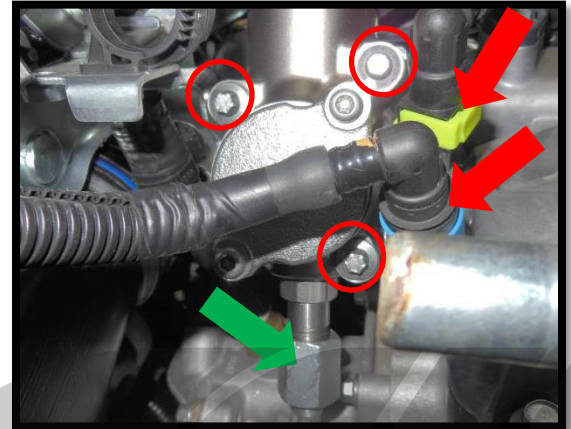

Figure 1l
r) **Remove the high pressure fuel pump.** Use the open end of a 19mm wrench to loosen the hard line connection (green arrow in Figure 1l).
s) **Use a flat head screw driver** to carefully pry out the blue and yellow clips and pull the fuel lines off the pump (red arrows in Figure 1l).
t) **Use an E8 reverse Torx** to remove the three (3) Torx screws from the pump (red circles in Figure 1l) and remove the fuel pump from the car.